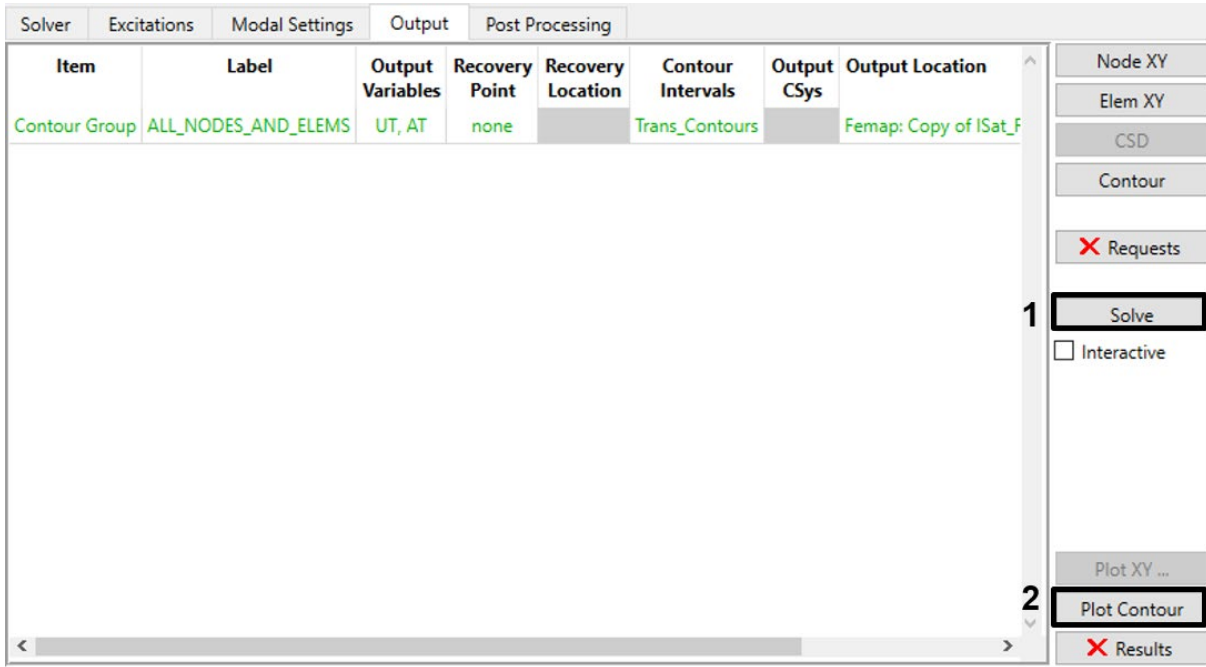
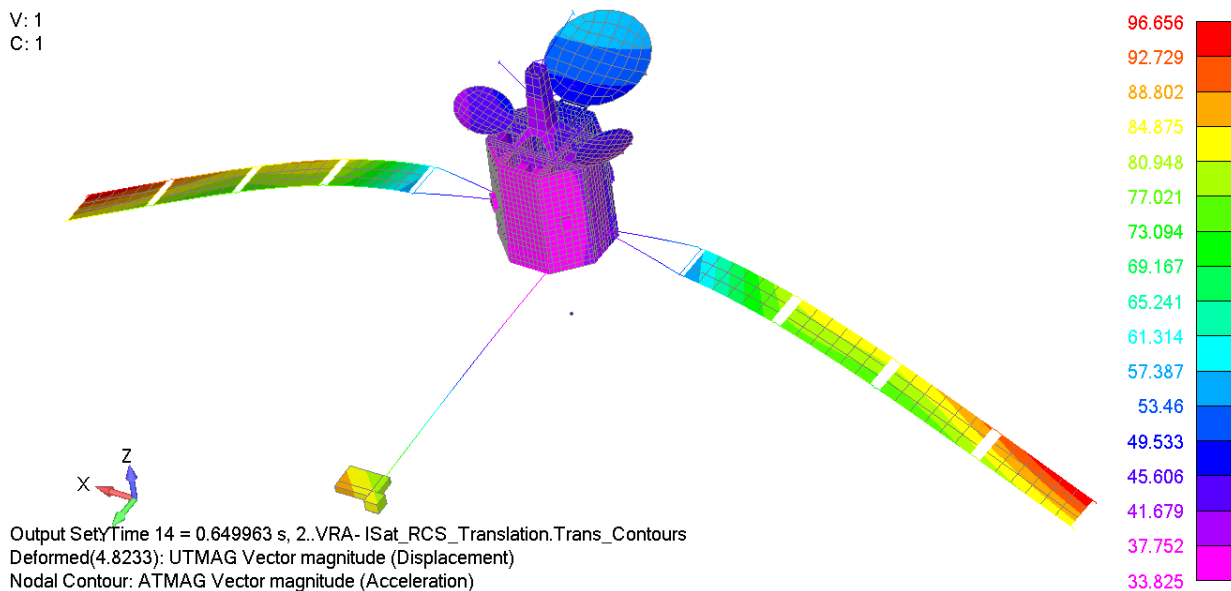

Figure 4-99. Solve for the requested contours and then plot them.
Figure 4-100. Contours of acceleration on deformed mesh for output frame 14.
- On the Output tab again, click **Solve** to compute and store the requested contours (Figure 4-99). When the solver finishes, click **Plot Contour** to view the results in Femap. You can simply double-click in Femap's graphics window to start the animation. You can also do any of the usual postprocessing operations such as showing contours of total acceleration on a deformed mesh for a specific time step, as in Figure 4-100.